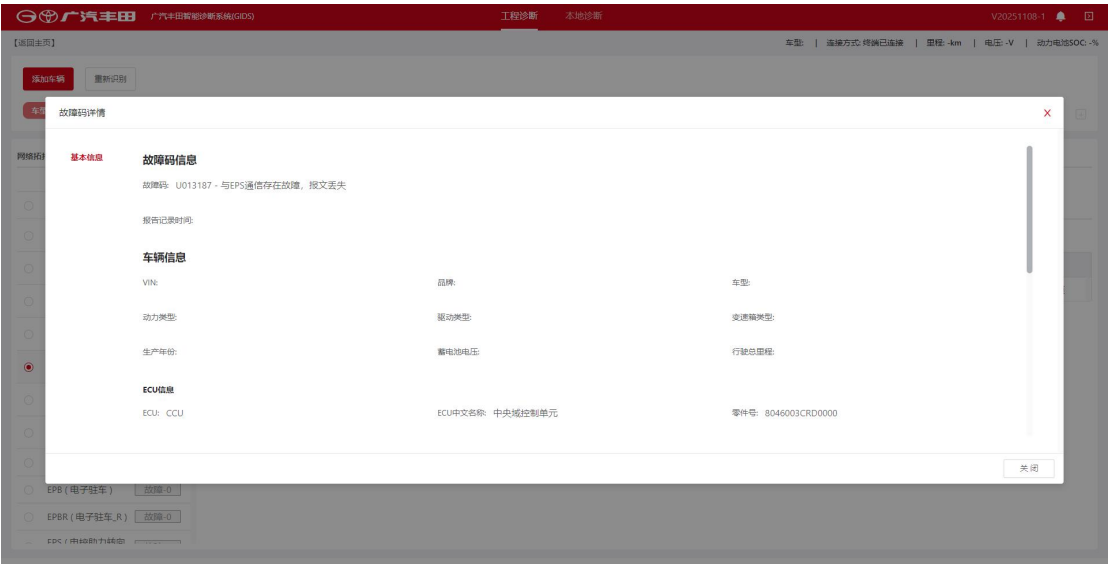

Figure 5-4 Fault Details - Basic Information
2. Click "Fault Details" to view the freeze frame data and troubleshooting steps of the DTC, as shown in Figure 5-4 Fault Details - Basic Information, and export is supported, as shown in Figure 5-4 Fault Details - Basic Information.